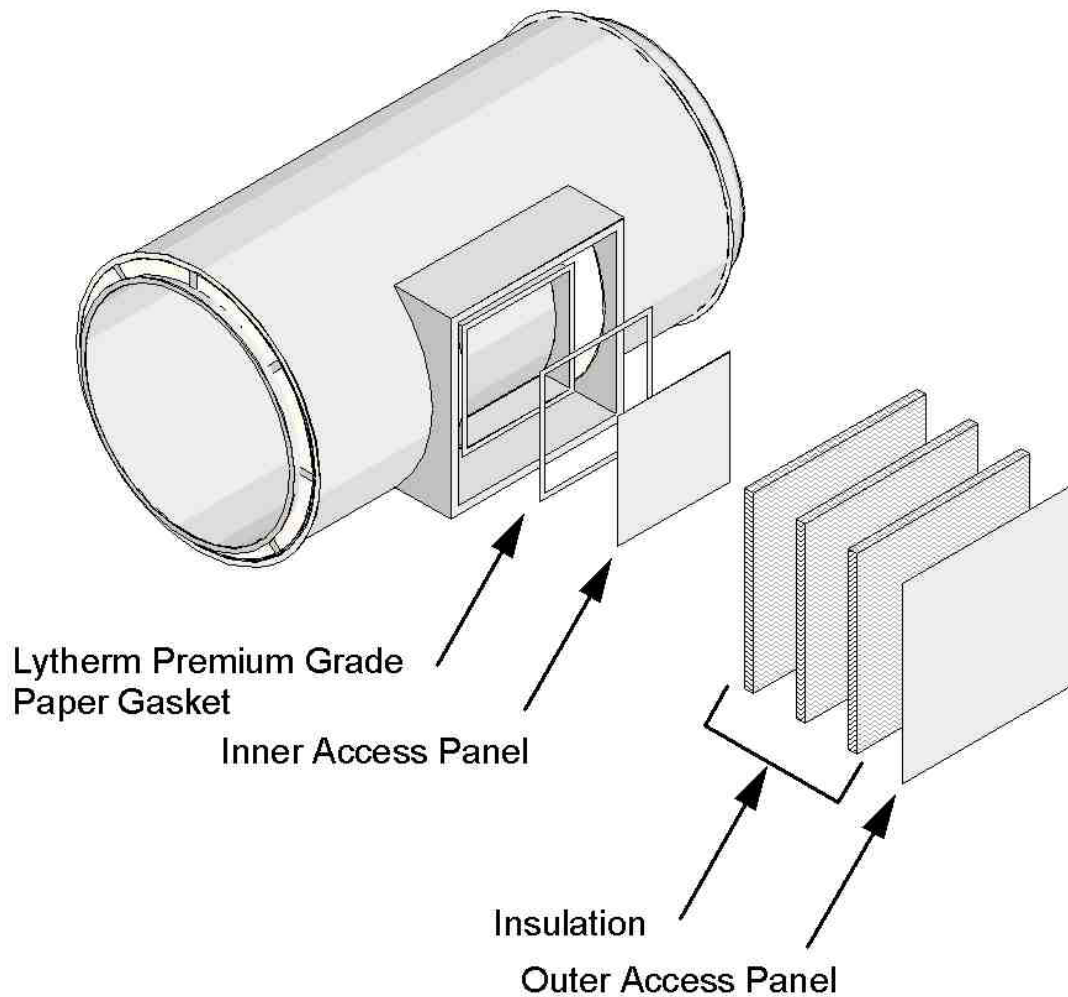

Figure 4. Access Door Assembly
D. Access Door: Reference Figure 4. Provide an access opening at least every 3.7 m. Use a Grease Duct section pre-equipped by manufacturer with access door assembly having a max. 20 in. x 20 in. opening at the inner access panel and three layers of nominal 1 in. thick insulation or two layers of nominal 1-1/2 in. thick insulation of the same type and